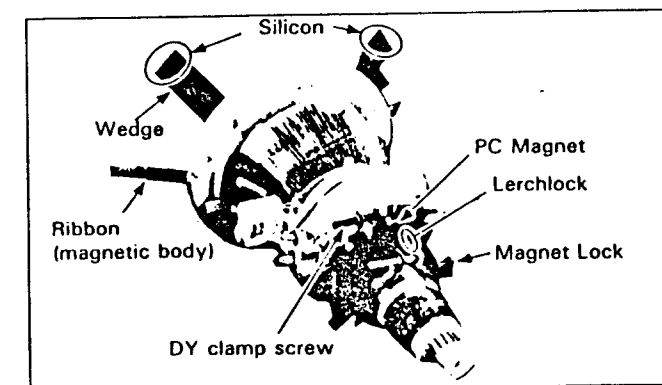

Fig. 10
3. Coat the PC magnet with lerchlock (Fig. 10)
4. Coat silicon on the three wedges. (Fig. 10)